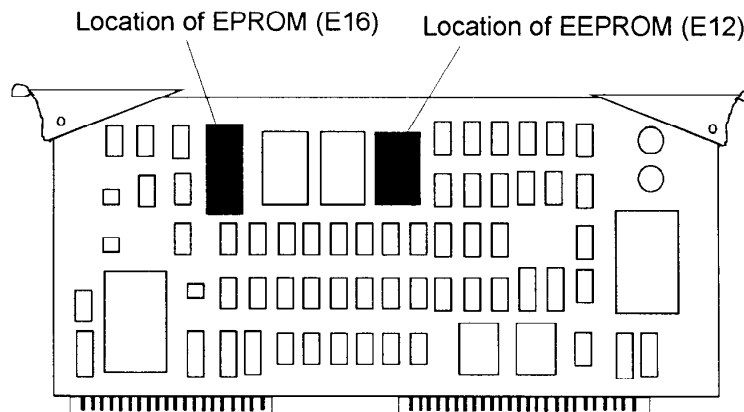

Figure 1
3. Remove the EEPROM from position E12 and insert updated EEPROM version 6.0 (refer to **Figure 1**).
4. Remove the EPROM from position E16 and insert updated EPROM version 16.0 (refer to **Figure 1**).
6. Remove the EEPROM from position E12 and insert updated EEPROM version 6.0 (refer to Figure 1).
7. Remove the Main EPROM from E16 and insert updated EPROM version 16.0 (refer to **Figure 1**).